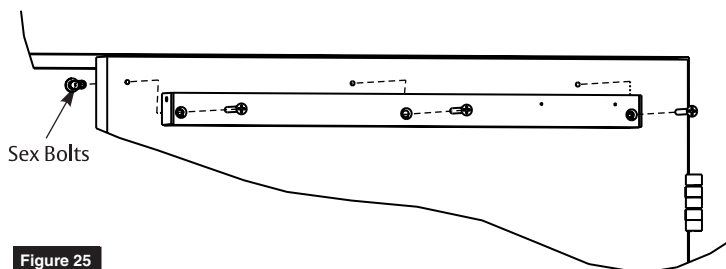

Figure 25
1. Using previously prepared holes in left door, install three (3) 1/4-20 x 1-5/8" screws through track and into sex bolts. (Figure 25)